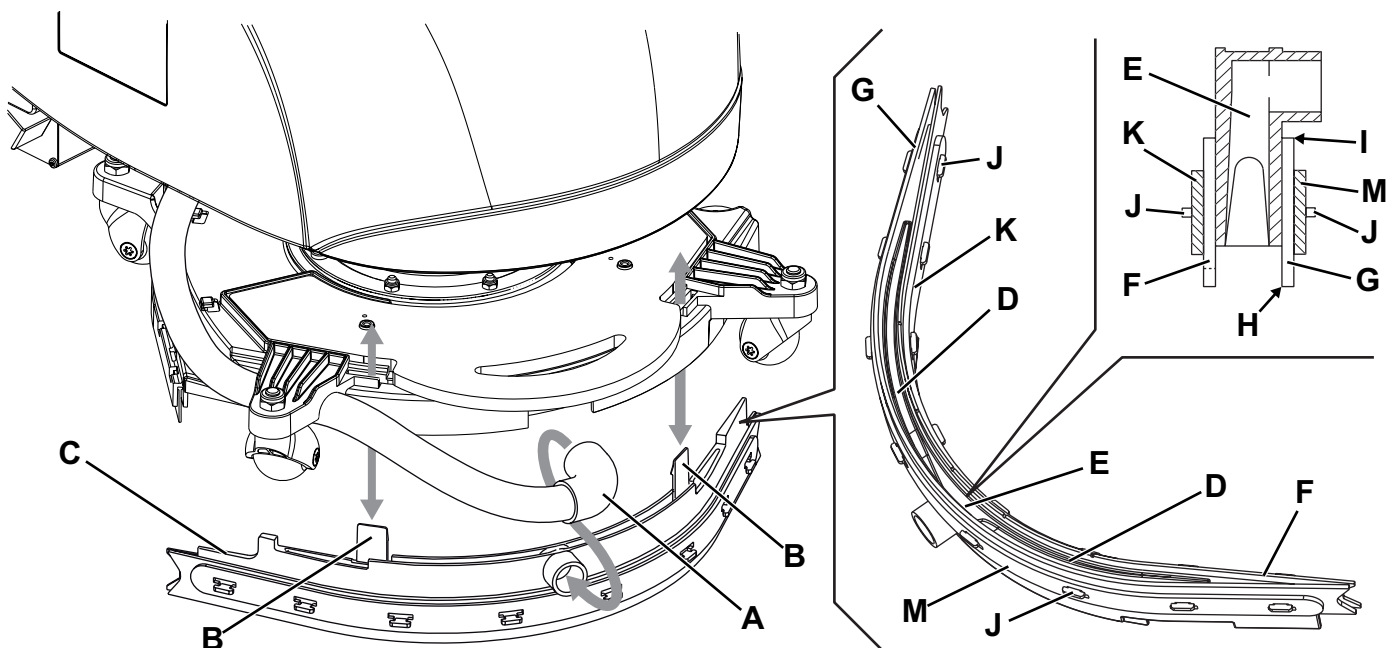

Figure 4
2. Turn the knob (32) to "0" and disconnect the battery (7).
3. Fully turn the brush/pad-holder deck (12) counter-clockwise.
4. Disconnect the vacuum hose (A, Fig. 4) from the squeegee by unscrewing the clamp.
5. Disengage the fasteners (B) and remove the squeegee (C) from the brush deck by turning it downwards.
6. Wash and clean the squeegee. In particular, clean the compartments (D) and the vacuum hole (E) from dirt and debris.
7. Check the front blade (F) and the rear blade (G) for integrity, cuts and tears; if necessary replace them (see the procedure in the following paragraph).
2. Check the front blade (F, Fig. 4) and the rear blade (G) for integrity, cuts and tears; if necessary replace them as shown below. Also check the front corner (H) of the rear blade for wear; if it is worn, overturn the blade to replace the worn corner with the other one (I), if it is integral. If the other corner is worn too, replace the blade according to the following procedure:
- Remove the fastening strap (K or M) from the fasteners (J), then replace (or overturn) the blade (G or F).
3. Install the squeegee (C) by installing the fasteners (B) in the brush deck.
4. Connect the vacuum hose (A) to the squeegee and tighten the clamp.